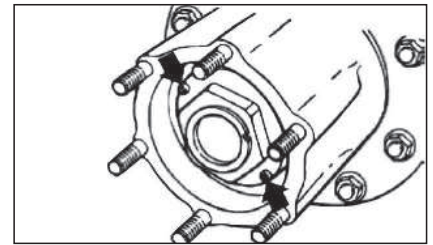

Figure 5
- 9 When nut sight gage and lock washer slot alignment occurs the SHCS locking system can be torqued to a final reading of 41 in-lbs MAXIMUM using a 9/64 hex bit socket for 1.50-12 and 1.50-16 and for all others 143 in-lb MAXIMUM using a 3/16 hex bit socket and the appropriate calibrated torque wrench. **(Make sure heads of cap screws contact nut flange surface) Hub should rotate freely after SHCS locking system is armed. SHCS must be replaced with each and every removal of the wheel bearing lock nut system with a replacement cap screw and using Loctite® threadlocker on the threads.** See Figure 5 for SHCS location.